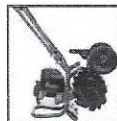

Figure 3
- Never fill the oil with the machine laying on its side. Only add oil when the machine is laying forward on the bumper guard as shown in Figure 3 on page 21. Be sure the engine is located on a level surface before checking or refilling oil. Clean around oil fill area.
- Chart A shows the recommended temperature range – See Engine Owner's Manual. After every 10 hours of accumulated run time, you need to check the oil level in the crankcase and add as needed per the instructions in Figure 3 and 4 (below).
- To check or add oil, place machine on level surface. Tip the machine forward as shown in Figure 3.
- Only add oil when the machine is laying forward on the bumper guard as shown in Fig. 3.